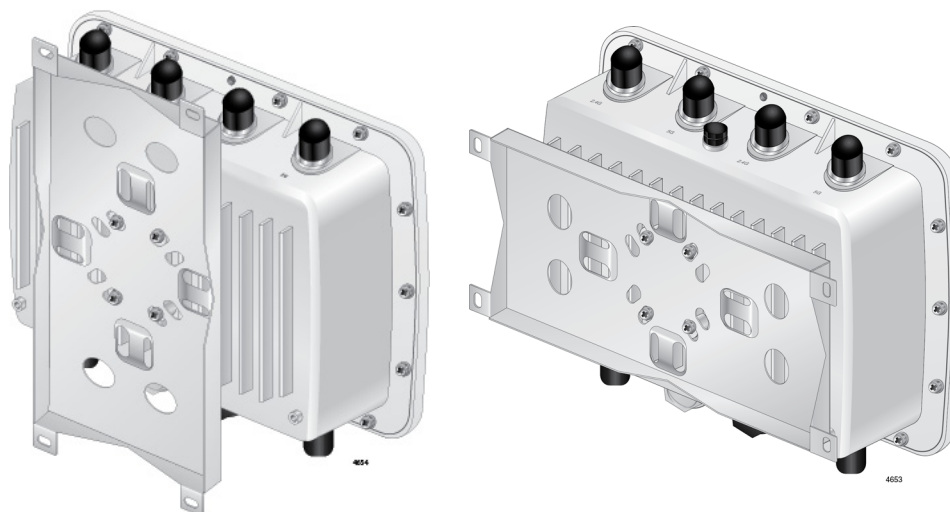

Figure 12. Two Orientations of the Mounting Base
- The access point must be installed the front panel down as shown in Figure 12.
- The mounting base can be in a vertical or horizontal position. See Figure 12 on page 37.
The mounting base can be in a vertical or horizontal position. see Figure 12.